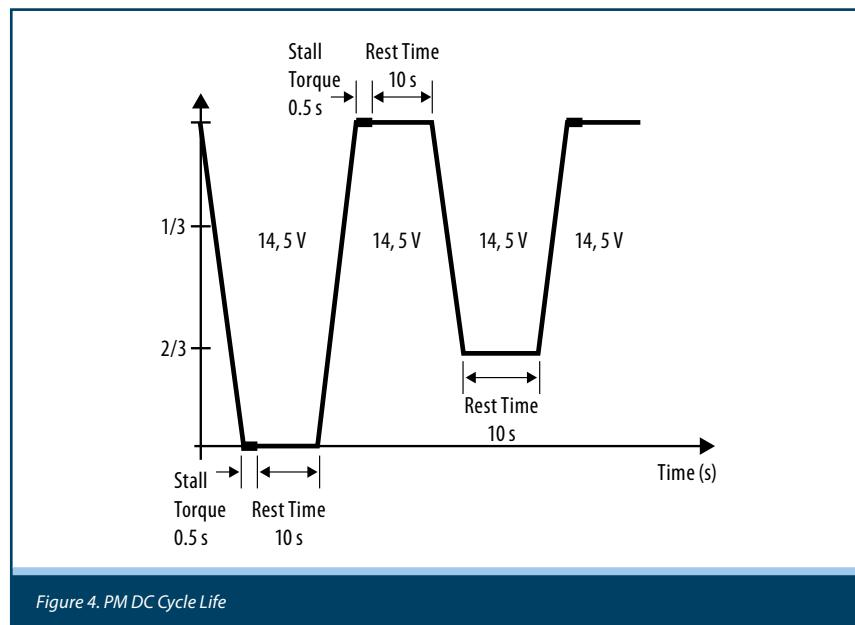

Figure 4. PM DC Cycle Life
**2. Cycle Life:** A typical cycle life will be a short motor rotation followed by a short stall and a period of rest. A motor may undergo hundreds or even thousands of cycles with the pass criteria being that the protection should never trip. Figure 4 is an example of how the protector can be checked for nuisance tripping.